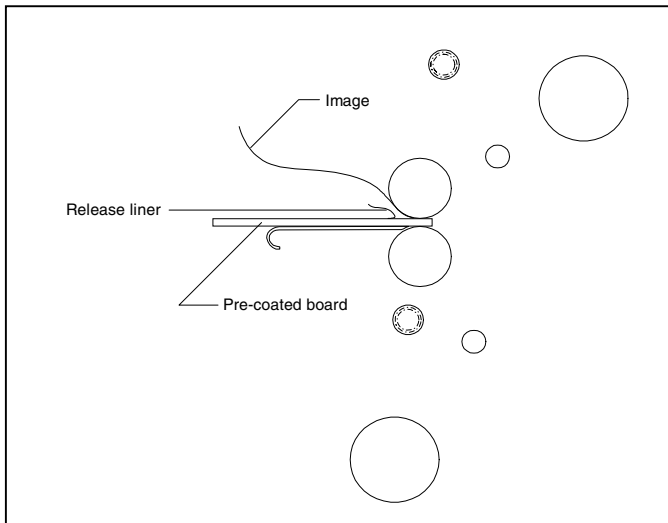

Fig. 30
TIPS FOR MOUNTING PRE-COATED BOARDS (Figure 30)
1. Load the laminator as illustrated in Figure 30.